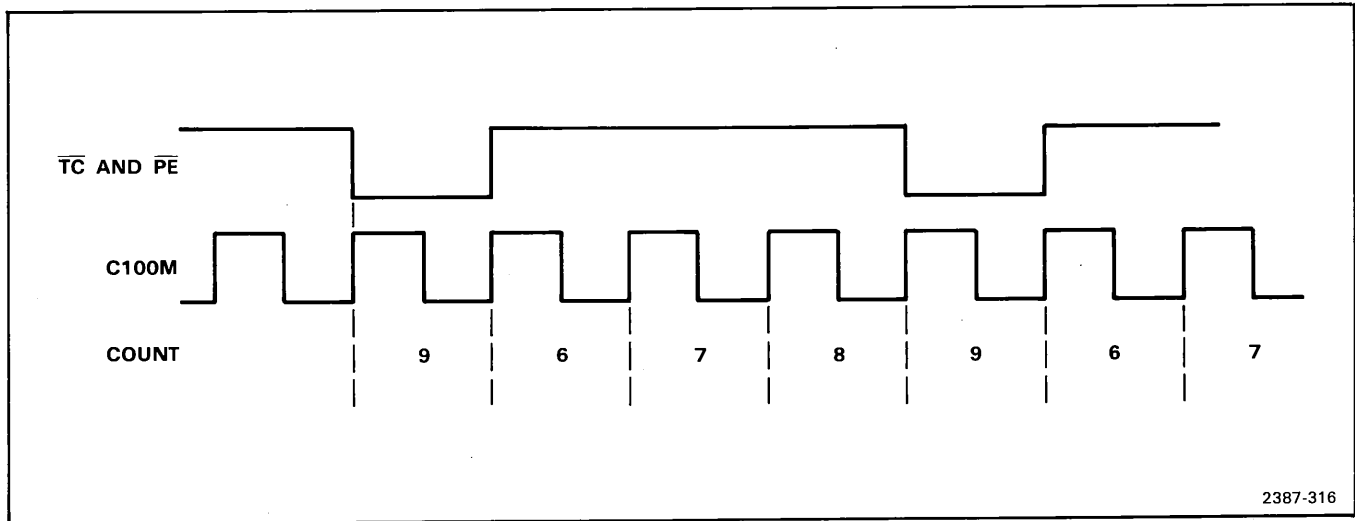

Figure 3-23. Timing for a divide-by-four operation in the pre-scaler.
The pre-scaler divider divides the C100M clock (the 200 MHz clock was divided by two in the clock generator) by integer values from one to ten. The division is accomplished by presetting decade counter U636 (bottom-right of diagram 9) with a value that will cause it to reach terminal count (9) in the desired number of clocks. For example, to divide by four, the counter is preset to six (0110). After three clock pulses, the counter reaches nine, and the \overline{TC} output will go low (see Fig. 3-23). The low on \overline{TC} drives the PE (Parallel Enable) input low. On the next positive clock transition (the fourth clock), the counter reloads the value on its parallel inputs and the process is repeated.